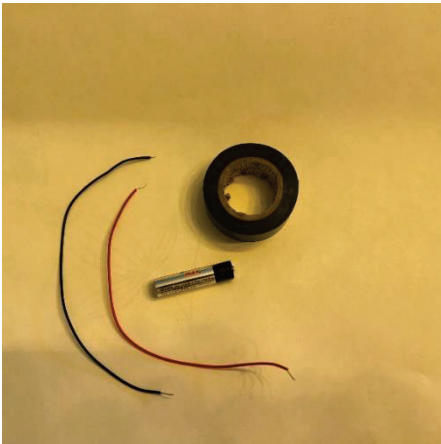

Figure 8-6: Supplies 1.5V battery, tape, and 2 wires
- See Figures 8-6 through 8-11